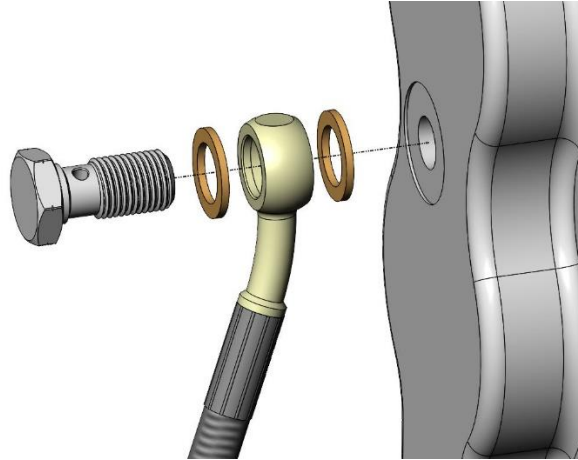

Figure 9 – Caliper Installed
14. Install the Stainless Steel braided hose using one copper crush washer on each side of the banjo fitting. Connect the hose to the hardline and install the hose lock. **IMPORTANT: Position the hose to avoid interference with the wheel and suspension components through the entire range of motion.** Torque the banjo bolt to 15-20 ft/lbs. See Figure 9 below for reference.